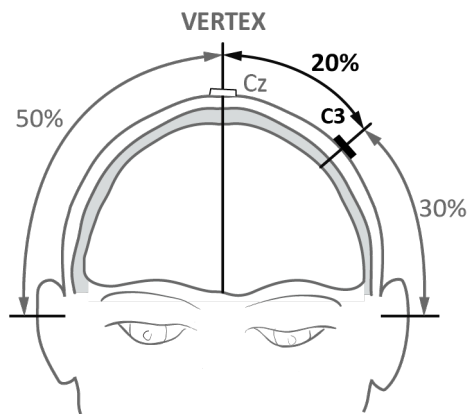

Fig. 31. C3.
14. From this point measure 20% of the distance between the external auditory meatuses towards patient's left ear, and mark the point. This is C3. **C3 is motor threshold detection location** (Fig. 31).